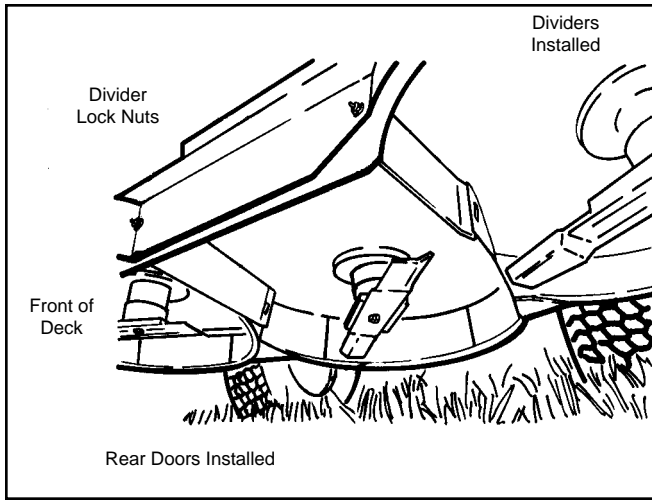

Figure 3-12
- **Mulching:** Install both dividers and rear doors. Remove side discharge chute. Lock down side door (Figs. 3-12, 3-13 and 3-14).
- **Side discharge:** Install rear doors and discharge chute. Remove dividers (Figs. 3-12, 3-15 and 3-16).